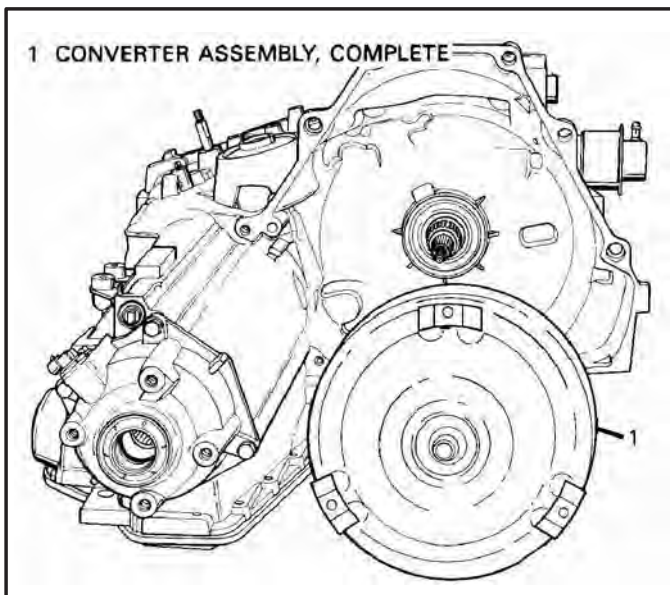

Figure 33
3. Remove the torque converter assembly from the transaxle, as shown in Figure 33.